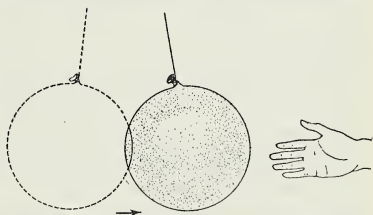

Fig. 272. A balloon electrified by rubbing with fur is attracted to the hand.
**Electricity produced by rubbing.** Did you ever hear your hair crackle and see it stand on end as you combed it on a frosty morning? If you blow up a large rubber balloon and hang it from the ceiling so that it is about at the level of the eye and bring your hand near it, nothing happens. However, if you rub the balloon gently with some fur, and then bring your hand near it, you will notice that it is attracted to your hand (Fig. 272). Evidently this force of attraction must be other than magnetic attraction, because no iron or steel is present. It is called *electrical attraction*.